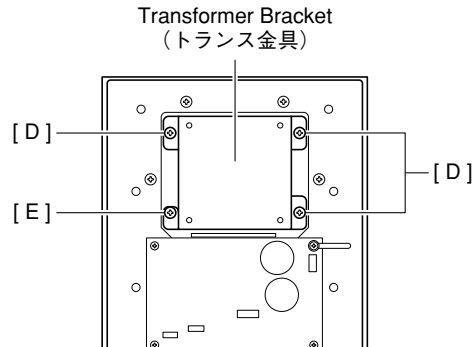

Fig. 5 (図 5)
- 5-3 Remove the three (3) screws marked [D] and screw marked [E]. The transformer bracket can then be removed. (Fig. 5)
- 5-3 [D]のネジ3本と[E]のネジを外し、トランス金具を外します。(図 5)